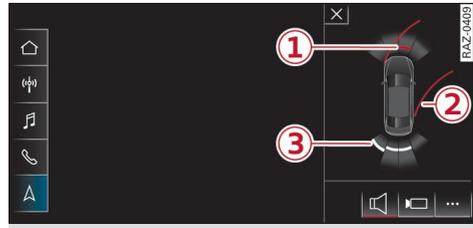

Fig. 104 Centre display: Distance indicator
Red segments  ⇒ *page 132*, *Fig. 104* represent objects detected in the direction in which you are travelling. The closer the vehicle gets to the obstacle, the closer the segments move towards the vehicle in the graphic. At the latest when the penultimate segment is highlighted the vehicle has reached the danger (collision) zone. Do not continue reversing!
- ▶ Press **⏏** on the centre display when the distance indicator ⇒ *page 132, Fig. 104* is displayed.